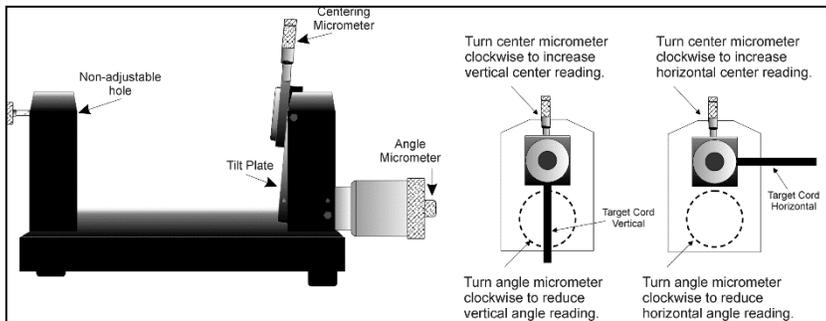

Figure 44 - Model A-807 Calibration Mounting Fixture
*Note: If using the Model A-807 Calibration Mounting Fixture, (see **Figure 44**) the target must be rotated 90° before performing a horizontal calibration. If the calibration fixture you are using has two centering micrometers, such as the T-230, the horizontal centering micrometer may be used and there is no need to rotate the target.*
In order to use the automated features of the Read8 software, calibration for a center-and-slope target must be performed with the target mounted in the A-807 calibration mounting fixture (see **Figure 44**. This fixture is equipped with both a centering micrometer and an angle micrometer.